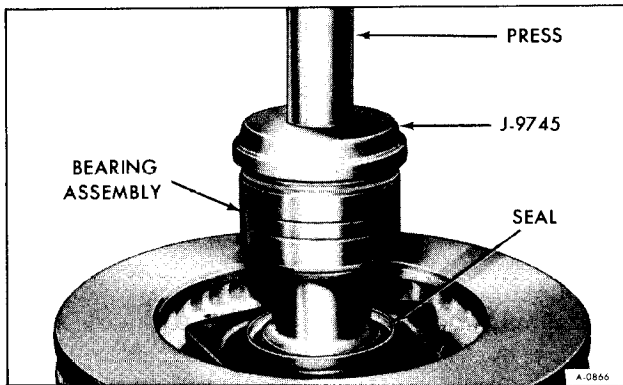

Figure 59—Installing Bearing
4. Install bearing as shown in Figure 59.